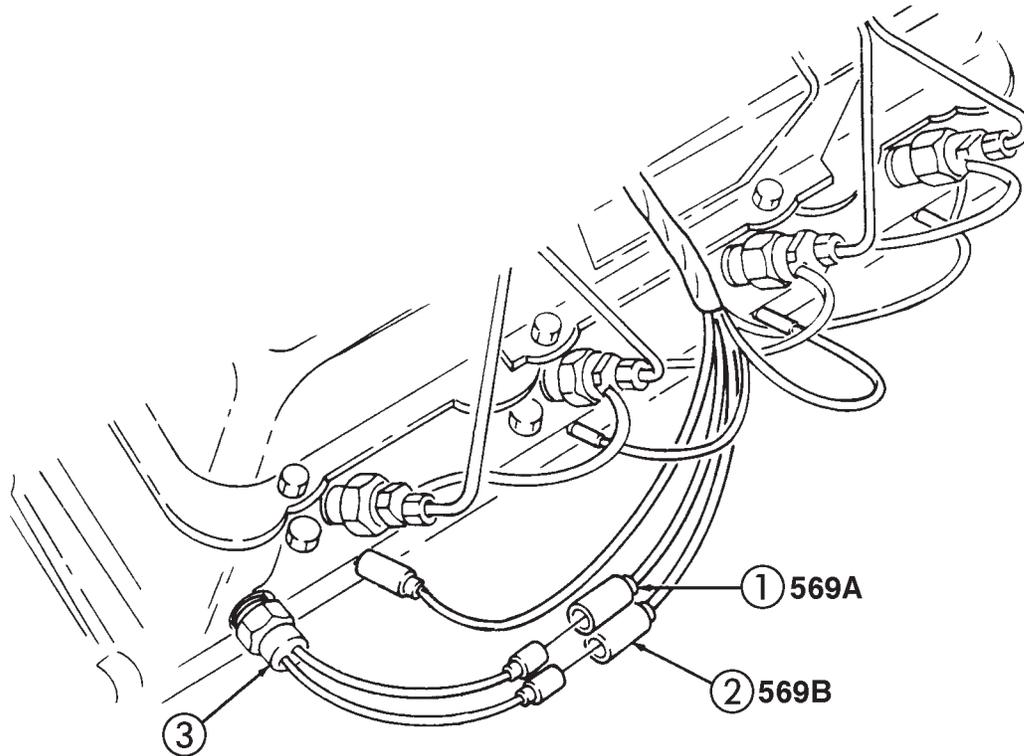

Figure 3-8. Cold Advance Solenoid and Switch Hook-up.
**BB.COLD ADVANCE SOLENOID-SWITCH TEST (Figure 3-8)**